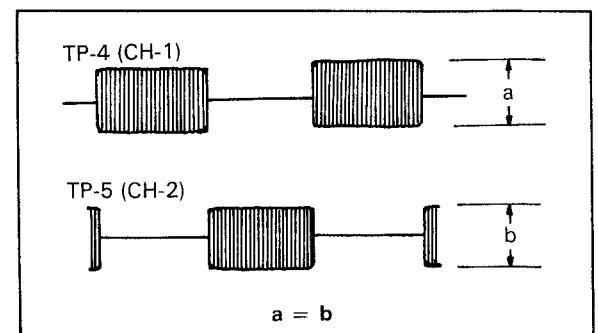

Fig. 6-20 Playback FM signal
8. Check that the waveform between the channels as shown in Fig. 6-20, if there is a difference between the channels, adjust the waveform to be equal by using R33 (CH-1 HEAD Q) and R34 (CH-2 HEAD Q).